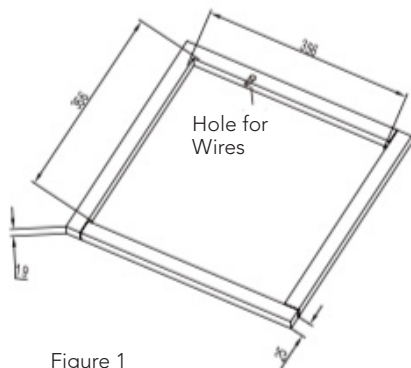

Figure 1
3. Examine the roof opening size, if the opening is small than 356x356mm, the opening must be enlarged. If the opening exceeds 356x356mm, a mounting plate (frame) must be fabricated to reduce the opening size (See Figure 1).
2. It must be capable of holding the roof outer surface and interior ceiling apart and supporting them, so that when the roof top air conditioner and ceiling assembly are bolted together, no collapsing occurs. A typical support frame is shown in Figure 1.